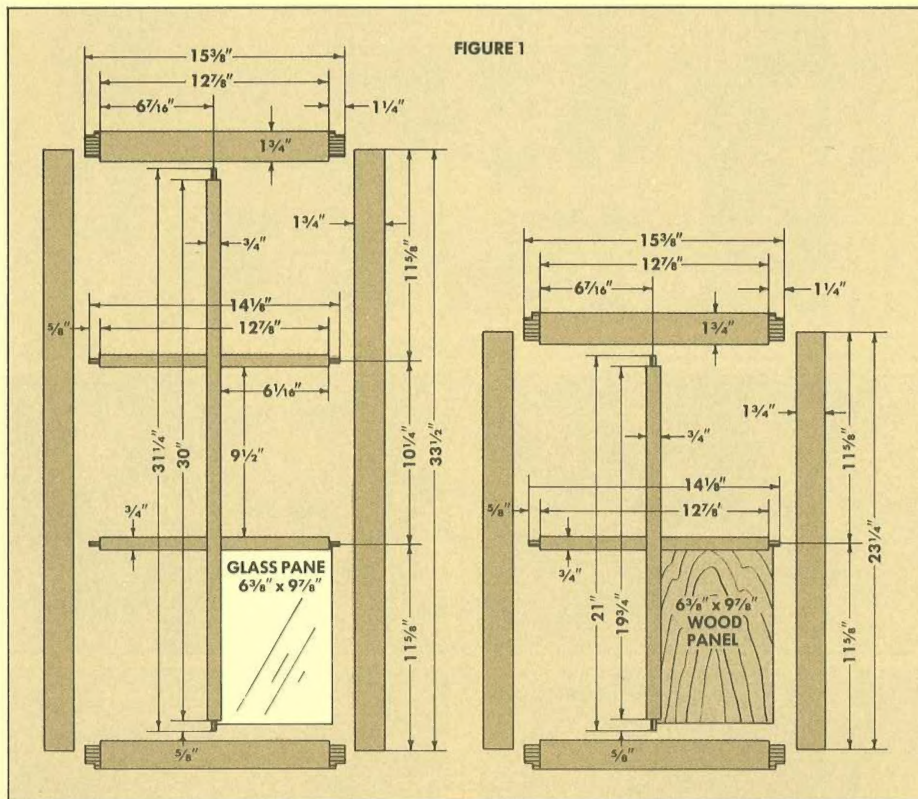

FIGURE 1
The Cutting Diagram shows a suggested layout for cutting the pieces. Finished dimensions are given in Figures 1, 4, and 6.
We started construction with the base cabinet, cutting the sides and bottom to finished size from the  $\frac{3}{4}$ " Maple plywood. Then the other six pieces needed were cut to rough length from  $\frac{3}{4}$ " solid maple. These pieces are shown in the Cutting Diagram for the cabinet, Fig. 1. They include: the two top rails which complete the "surround" of the cabinet; the front drawer rail and back drawer support which support the hardware for the drawers; the center divider which separates the drawers and doors; and finally the toe board.
First I cut the stiles to length to fit the opening of the cabinet. (In the case of the hutch, this should be a very tight fit.) Then I marked out the length and depth of the mortise at each end of the stile (Fig. 1).
5) Now the template can be cut out. The easiest way to achieve the rounded corners at each corner of the "trays" is to drill  $\frac{3}{4}$ " holes. (I used a *Stanley* Power Bore bit.) Then the trays can be cut out with a sabre saw (Fig. 1). All edges of the template must be filed and sanded to perfection. Any bumps will be transferred to the wood . . . and a real hassle to sand out.